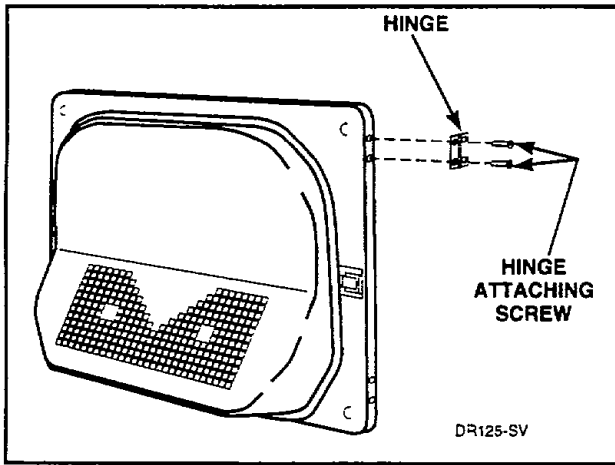

Figure 19
- f. Reinstall the two hinges on the side of door opposite of door pull and door strike, *Figure 19*.
**NOTE:** Screw the hinges onto door with the hinge pin facing the front of the door, *Figure 19*.